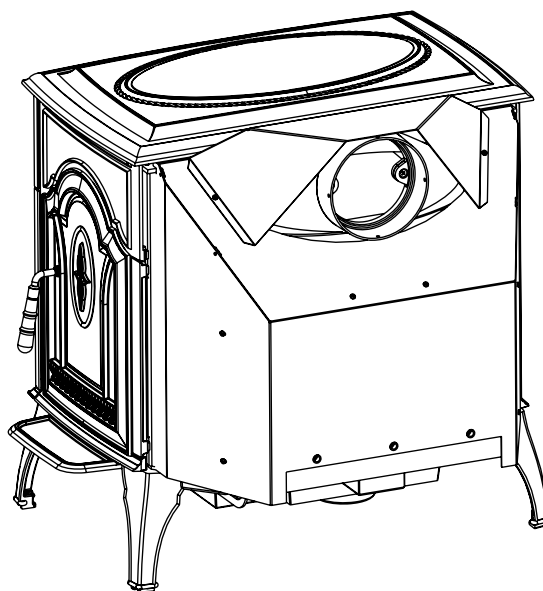

Figure 10C
7. Place cast top on the unit. See **Figure 10C** for completed view.